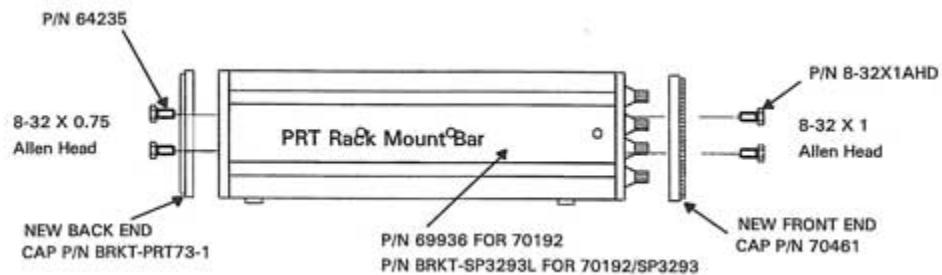

Figure 6-3 Installing PRT73 Rack Mount Bar
2. Insert the PRT73 Rack Mount Bar as shown into each side of the Model PRT73 and secure the new back end cap with two 8-32 x .75 Allen head screws at the rear of the Model PRT73. Secure the new Front End Caps and the PRT Rack Mount Bar to the Model PRT73 using two 8-32 x .75 Allen head screws. Refer to Figure 6-3.